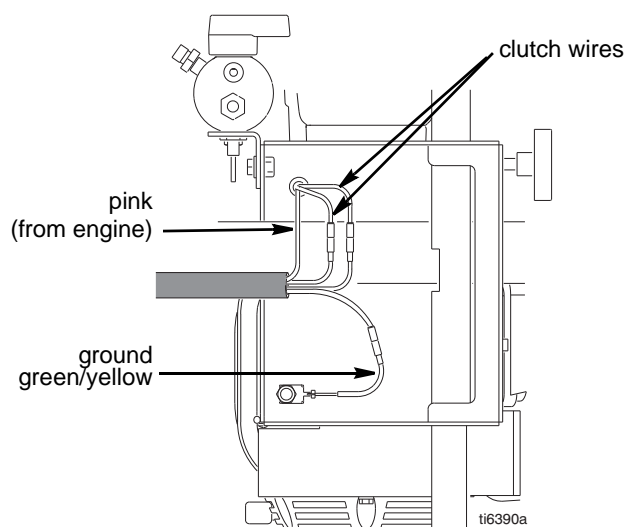

FIG. 12
2. FIG. 12. Disconnect all necessary wiring.
3. FIG. 12. Connect all necessary wiring.
2. FIG. 12. Push pin (31) into hole. Push retaining ring spring into groove all the way around connecting rod.